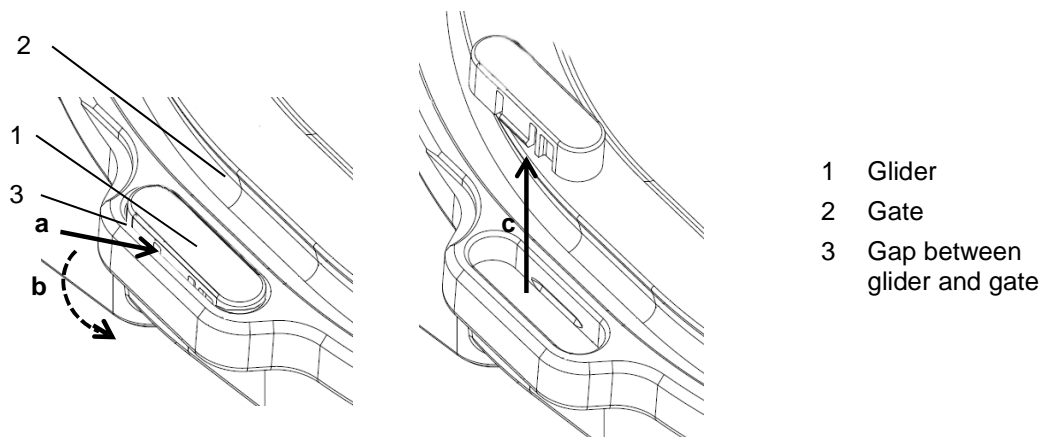

Figure 6-4
11. Remove gliders from the front and backside of the gate with a small, edge shaped tool e.g. screwdriver. Squeeze tool into gap between glider and gate (a); see «Figure 6-4». Push down the tool (b) to release glider from pocket and remove glider (c).